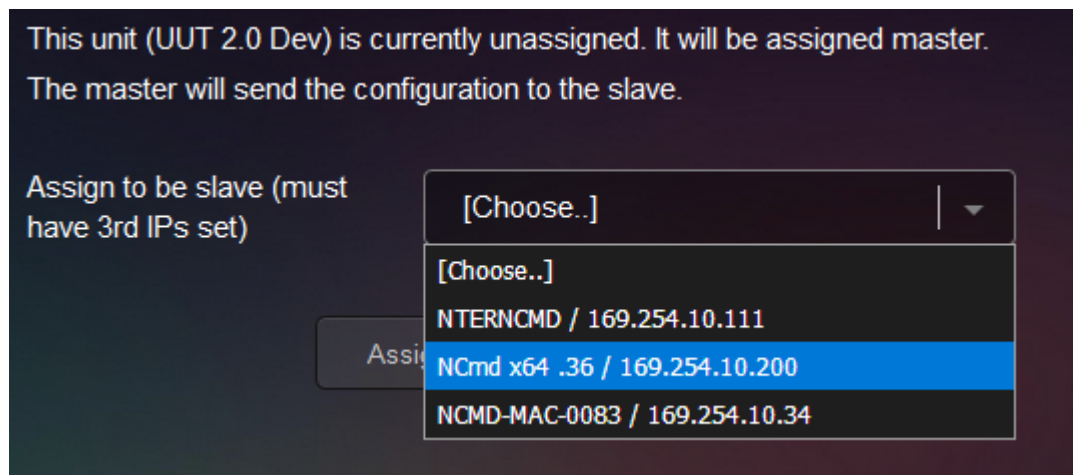

FIG. 56 Choose Client
- Navigate to **Admin > Master / Client** on the master unit. Now that the 3rd IP addresses are configured, the menu shows other N-Commands it has found on the network and offers to configure them to be the client. See Figure 56.